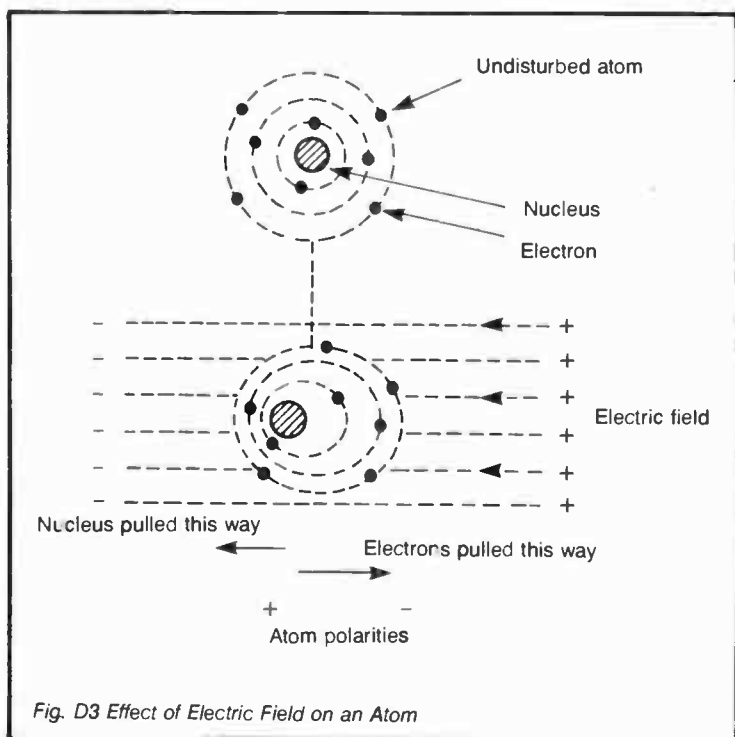
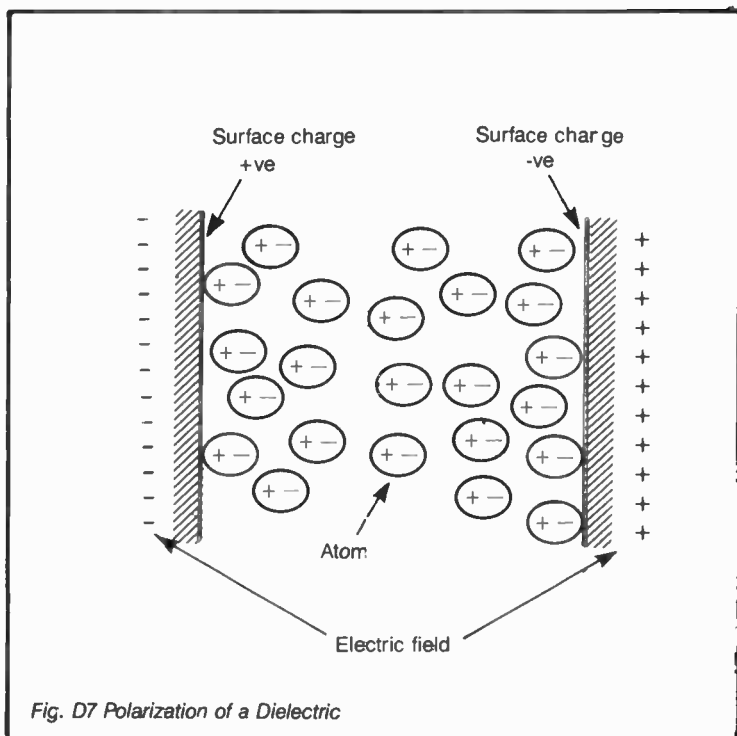

Fig. D3 Effect of Electric Field on an Atom
Fig. D7 Polarization of a Dielectric
**DIELECTRIC** This is an insulating medium which is capable of sustaining an electric field. If an insulating material is subjected to an electric field, its molecules (or atoms) become elongated in the direction of the field, the electrons being pulled one way, the nuclei the other as illustrated pictorially for an atom in Figure D3.
**DISPLACEMENT** is a term used regarding the effects of an electric field on a dielectric. When an electric field is applied to a dielectric or insulator, the atoms are stretched out as indicated in Figure D3. Polarization of the material follows as shown in Figure D7 resulting in the surface charges as also shown. The small displacement of the electron charges within each atom, all in the same direction constitutes a minute current, known as the *displacement current*, but note that this current only flows while polarization is being established.